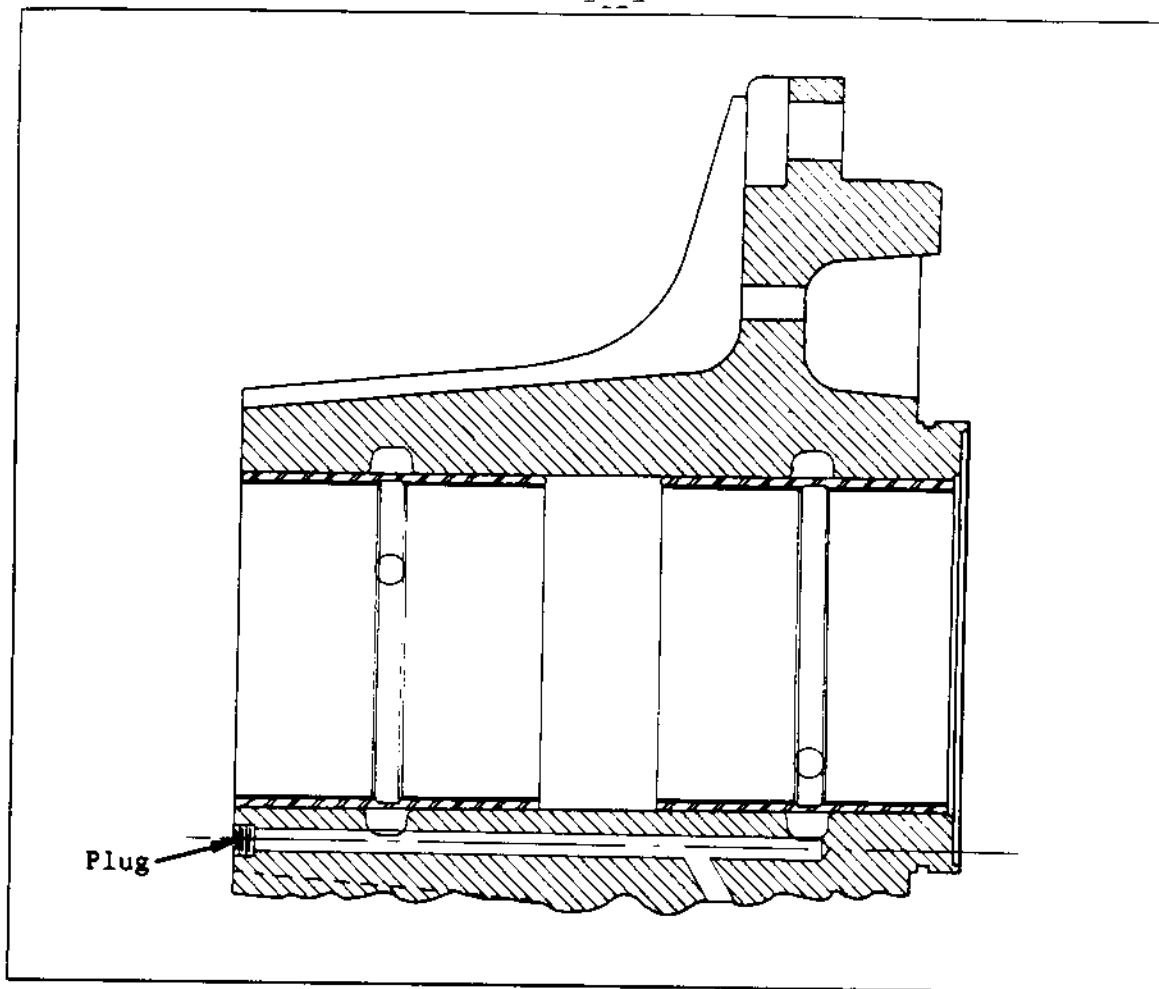

FIGURE 9 - Motor End Bearing Head Plug
- (2) Plug left out of motor end bearing head. The suction cover must be removed to observe excess oil flow. See Figure 9.